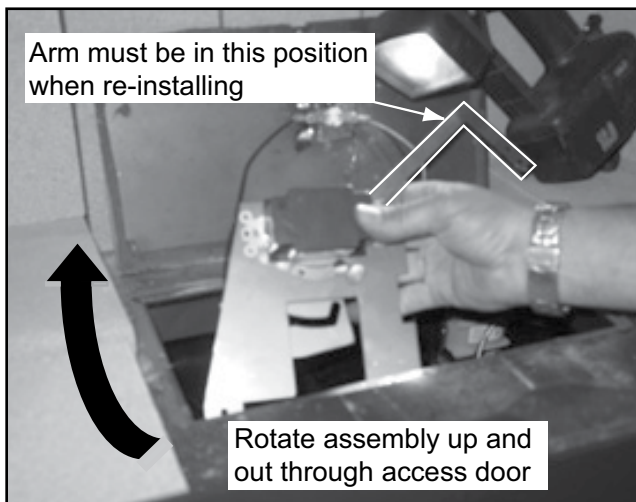

Figure 37.3
9. Insert the new timer assembly into the access door with the back side towards you. Please note the correct position of the linkage lower arm in Figure 37.3.